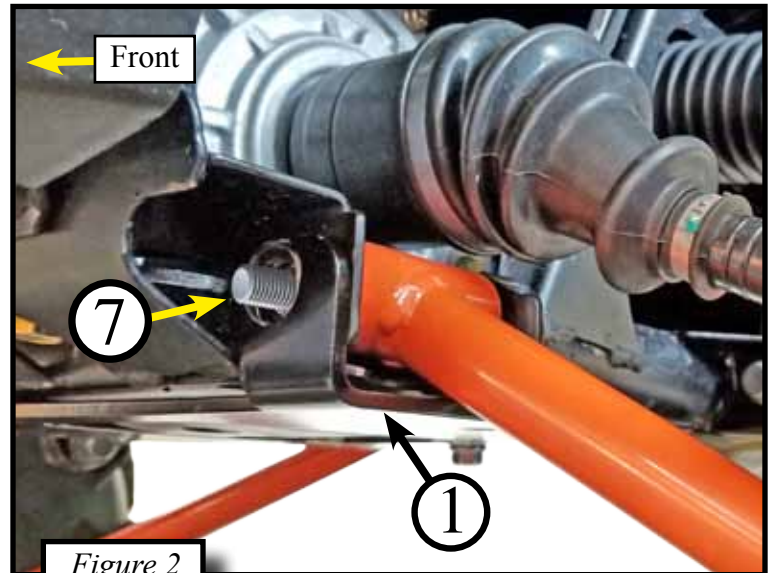

Figure 2
3. Hold the frame bracket (1) up to the frame lining up the holes with the two M10 bolts (7) sticking out. Loosely attach nuts (8). Shown in Figures 2 & 3.